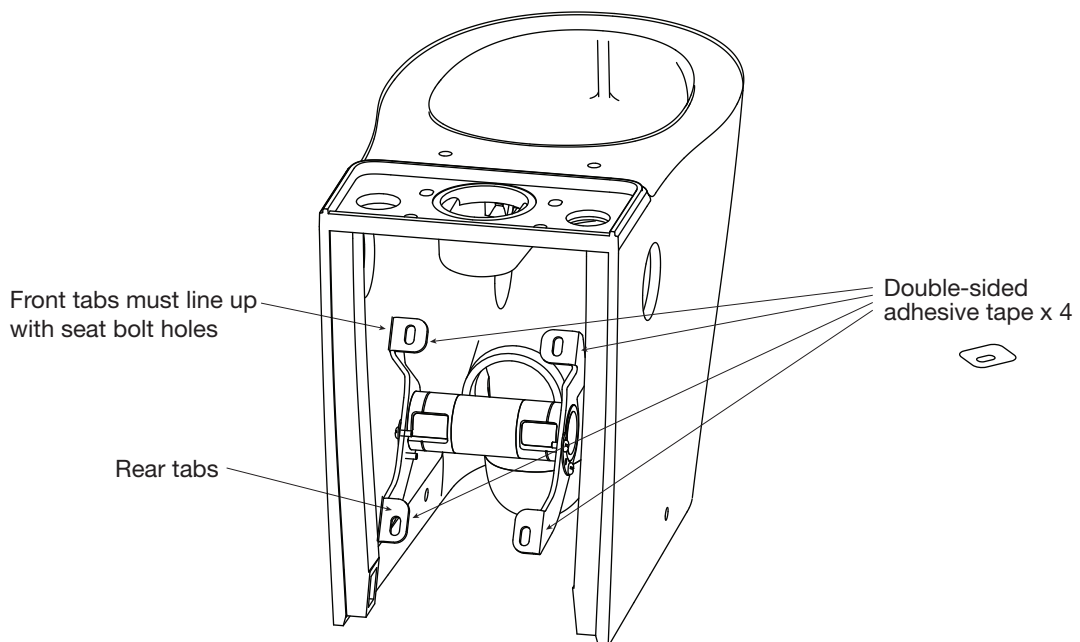

Fig. 2
2. Apply the double-sided adhesive tape to the hinge block assembly tabs. Insert hinge block assembly through back of pan at a slight upward angle as shown above in **Fig. 2**.